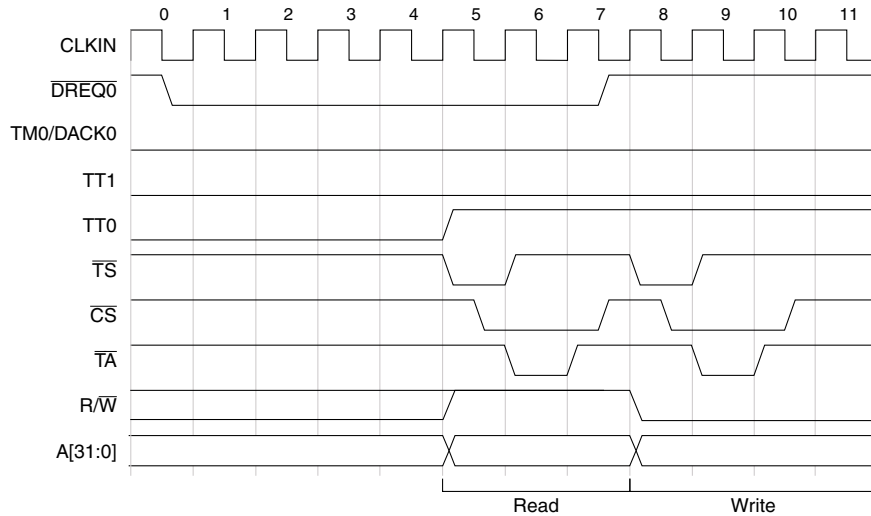

**Figure 12-11.  $\overline{\text{DREQ}}$  Timing Constraints, Dual-Address DMA Transfer**
Figure 12-11 shows the minimum 4-clock cycle delay from when  $\overline{\text{DREQ}}$  is sampled asserted to when a DMA bus cycle begins. This delay may be longer, depending on DMA priority, bus arbitration, DRAM refresh operations, and other factors.
Although Figure 12-11 does not show TM0/DACK0 signaling a DMA acknowledgement, this signal can provide an external request acknowledge response, as shown in subsequent diagrams.
- For dual-address transfers,  $\overline{\text{DREQ}}$  must be negated before  $\overline{\text{TS}}$  is asserted for the write portion, as shown in Figure 12-11, clock cycle 7.